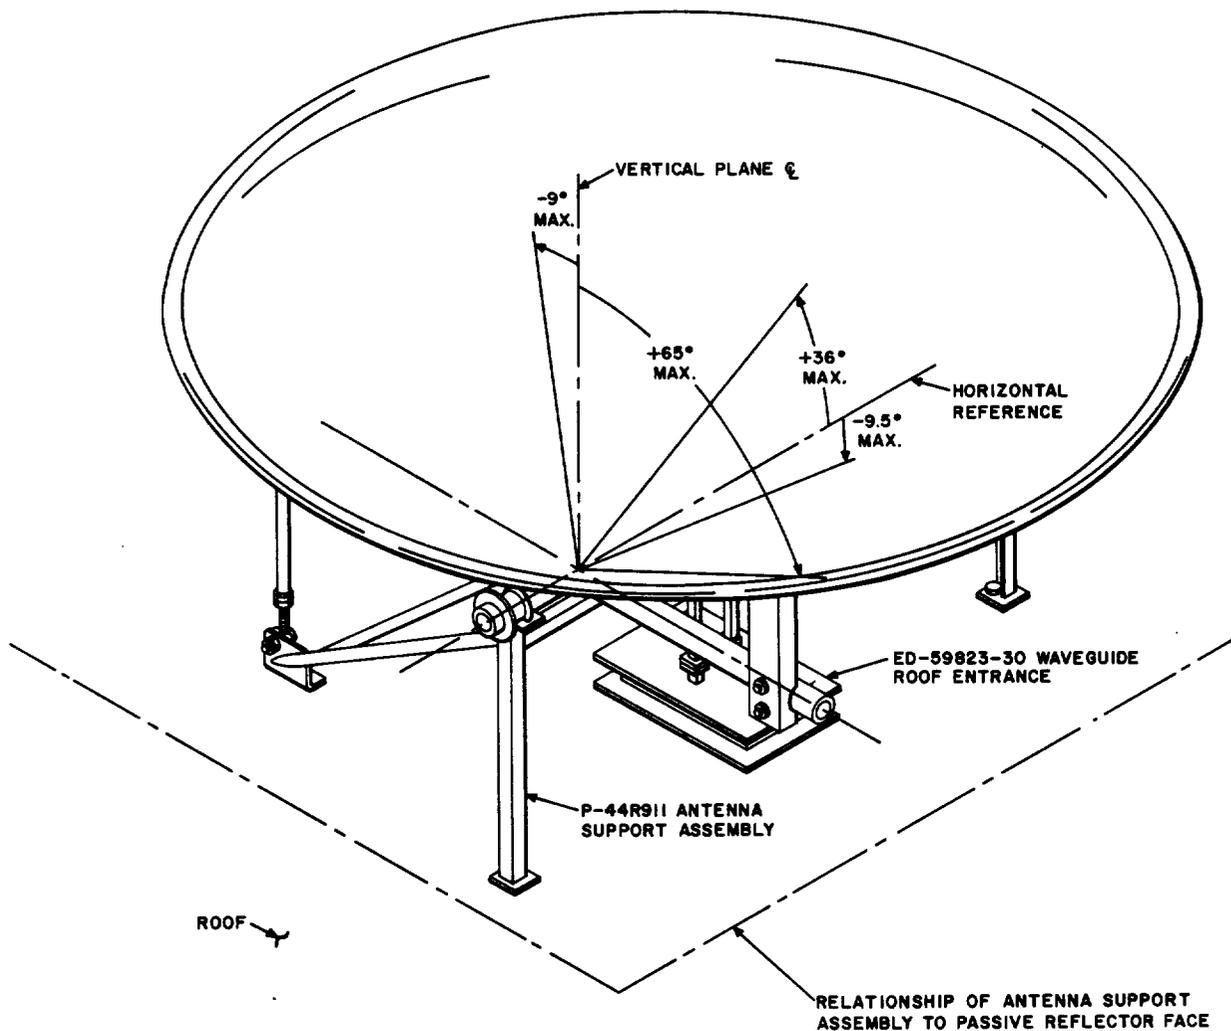

Fig. 16—ED-59804-30 Roof Mounting, Directivity of Antenna on P-44R911 Antenna Support Assembly
5.52 Local supervision shall determine the mounting position of the P-44R911 antenna support assembly based upon the location of the associated passive reflector in the periscopic system. Fig. 16 illustrates the relationship of the antenna support assembly to the passive reflector.
(b) After the ED-59823-30 roof entrance assembly is attached to the roof (Fig. 16), install flashing completely up to the underside of the upper flanges on the roof entrance assembly. Apply roofing cement over flashing to ensure a watertight joint.